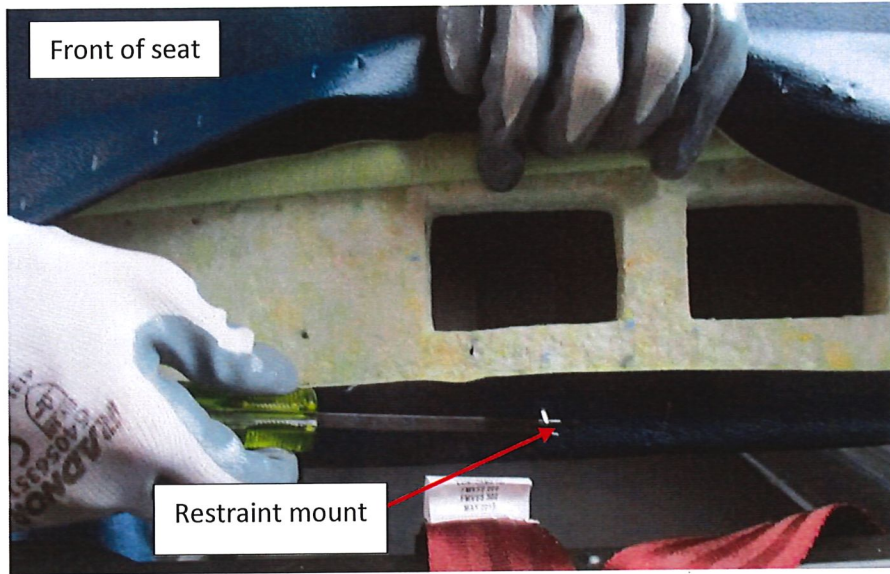

Figure 2: Removal the staples from the back side of the vinyl
7. Remove the staples from the backside of vinyl. This will be accessed from the front of the seat using staple removal tool. **Figure 2**